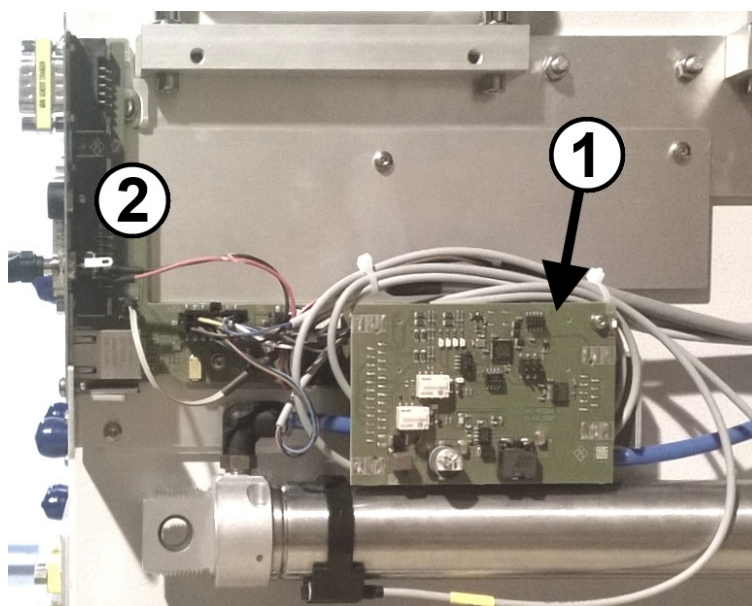

Figure 10-1: IRC module inside the chamber (cover removed)
- **"IRC"**: Internal remote control module (labeled 1 in Figure 10-1)